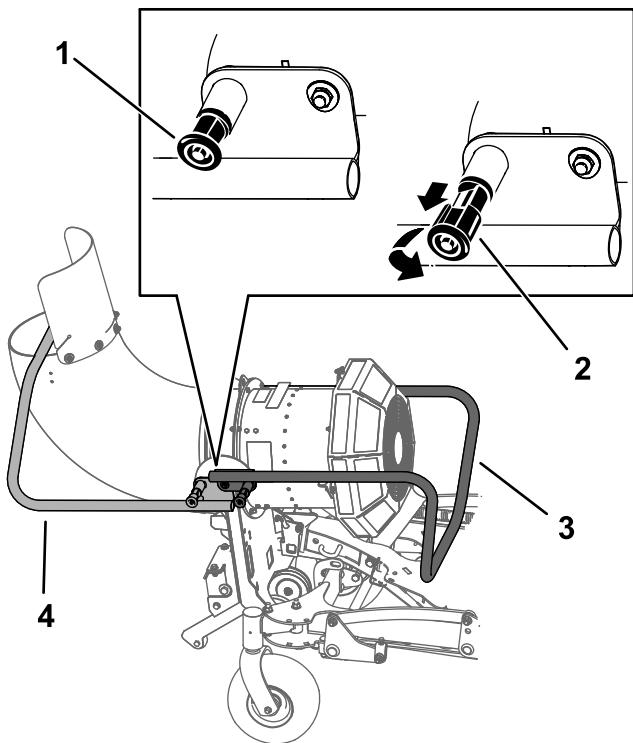

Figure 21
- Pull out the kickstand locking pins on both sides of the machine, rotate them 90 degrees so that they are disengaged, and raise the kickstand (Figure 21). Engage the knobs and ensure that the pins snap into position.